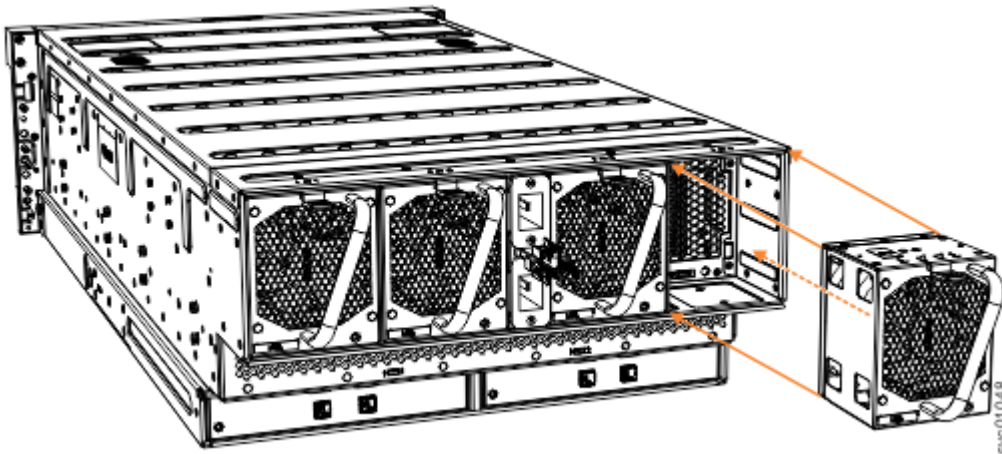

Figure 184. Remove and replace a fan module
3. Use the handle to pull the fan module out of the expansion enclosure chassis, as shown in Figure 184 on page 210.
6. Carefully insert the fan module into the chassis until it clicks in place, as shown in Figure 184 on page 210.